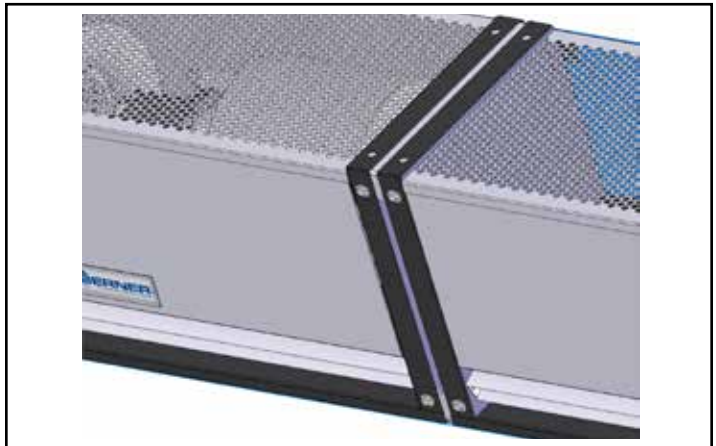

Figure 11 - Tandem Mounting
- D. Slide the end plate of the next unit over the brackets installed in Step C and attach using (4) additional $\frac{1}{2}$ " bolts as shown in **See Figure 11.**